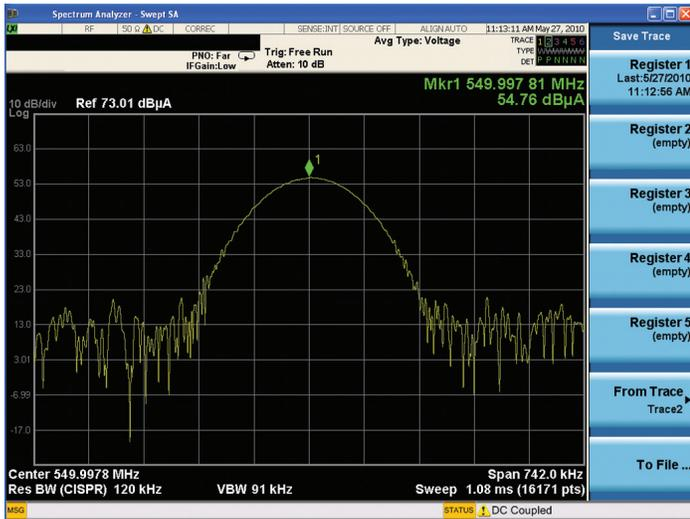

Figure 15. Preliminary diagnostics trace
1. Connect the diagnostics tools as shown in Figure 15.
Using information stored earlier from the conducted and radiated tests, tune the signal analyzer to one of the problem frequencies with a narrow enough span to give adequate differentiation between signals. Move the close field probe slowly over the DUT. Observe the display for maximum emissions as you isolate the source of the emissions. After you have isolated the source of the emissions, record the location and store the display to an internal register (See Figure 15).